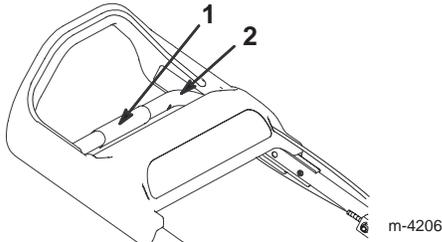

Figure 5
2. Remove the handle cover from the upper handle bar (Fig. 5).